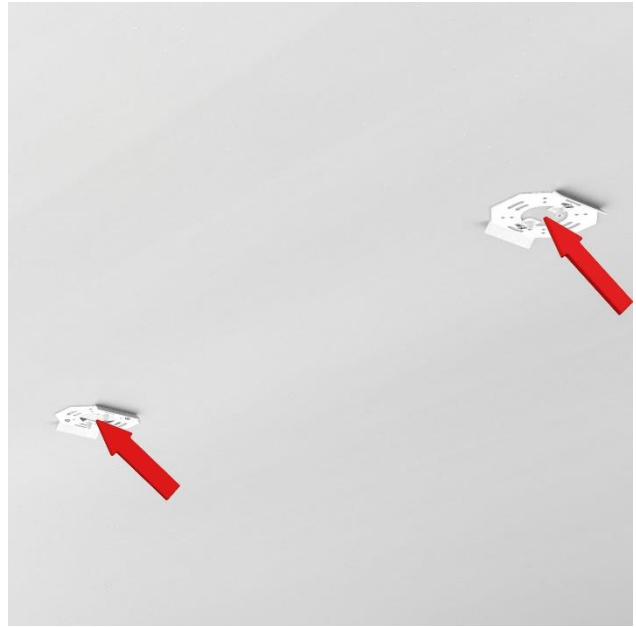

Figure 2
- When pre-planning the positioning of the second bracket, note proper orientation of flanges. (Fig 2)
- **Critical:** Prior to hanging second bracket, determine proper spacing (Fig 2) as follows: